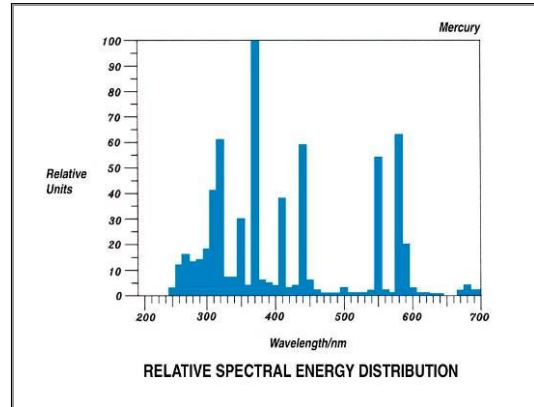

Figure 3. Spectral Distribution with a Mercury Bulb (optional bulb).
6. The thick, white electrical wire connected to the lamp should now be free on both ends. Remove the stainless steel button-head screw (Figure 3) on one side. It does not matter which side you removed.